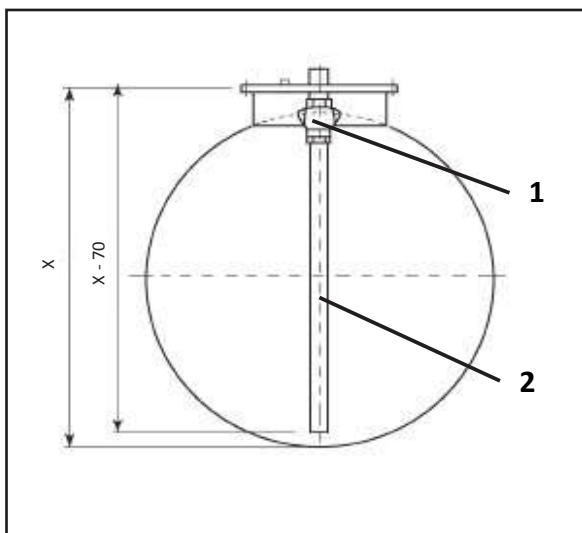

figure 1
- 3: Connect the pipe (position 2/Figure 1) to the overflow value:
- measure distance X between the manhole (position 1/figure 1) and the tank bottom.